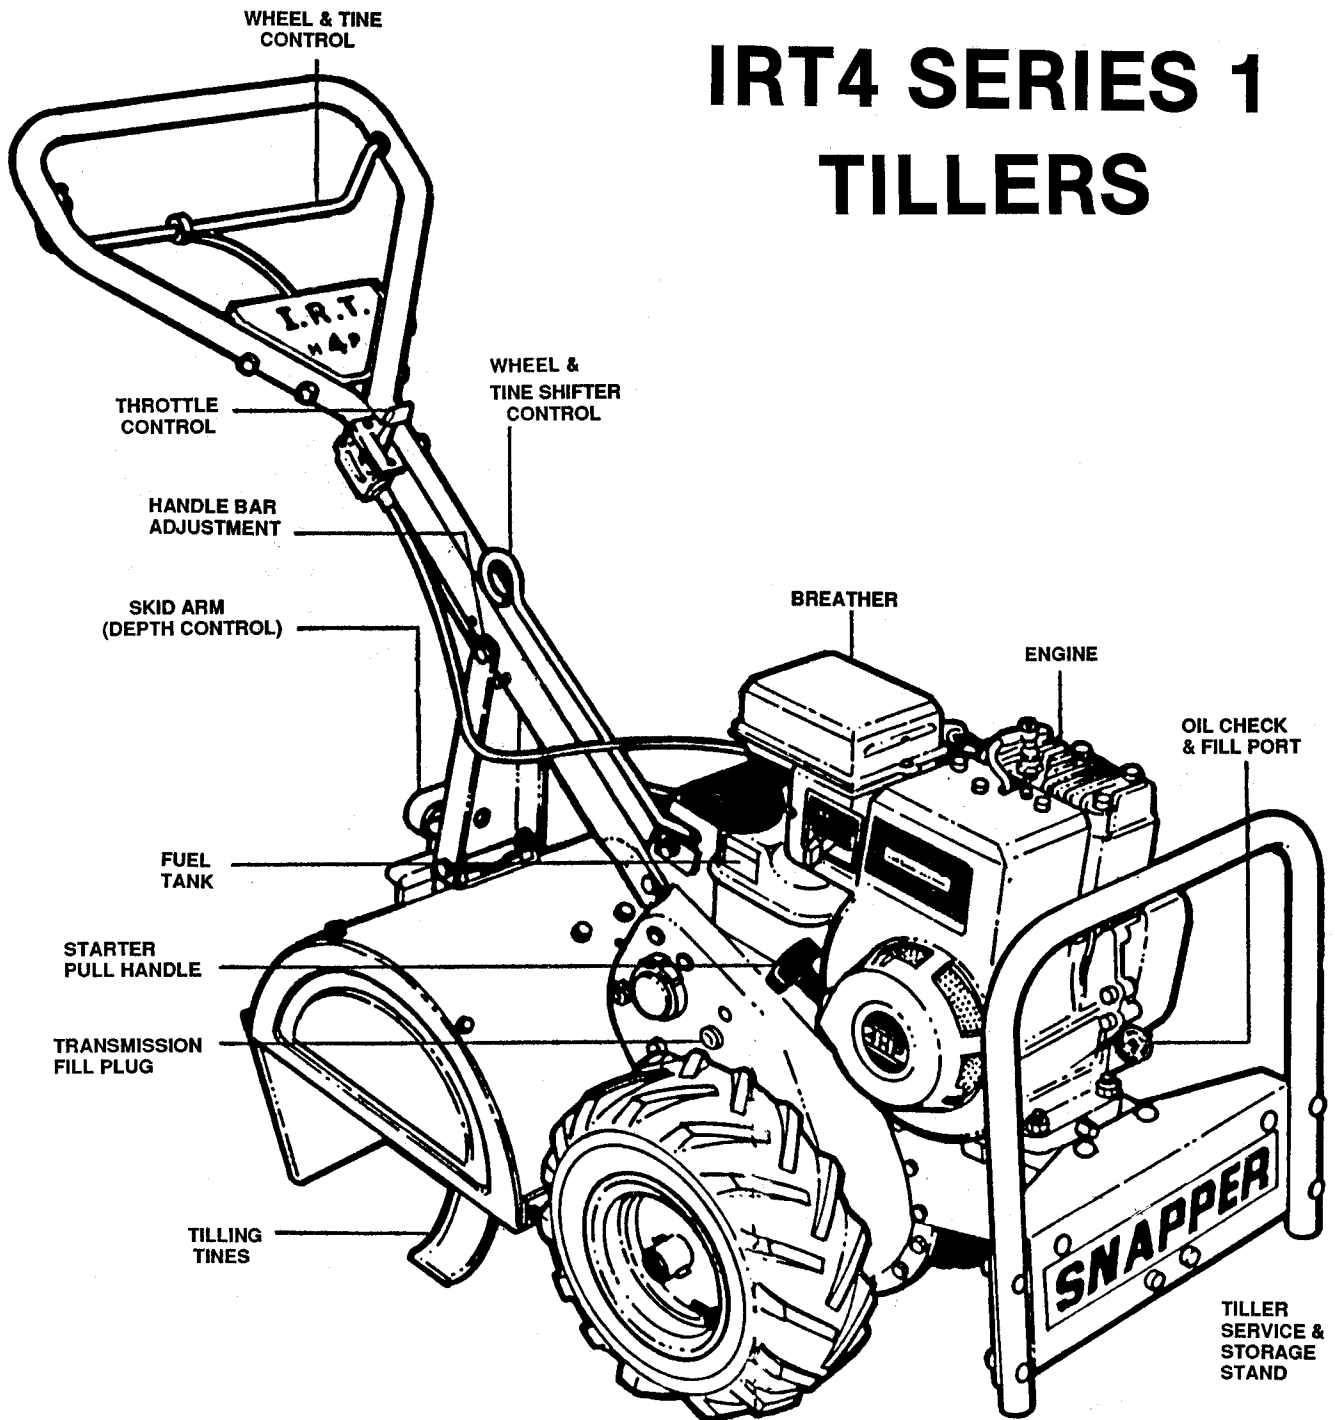

FIGURE 1
**INTRODUCTION:** This manual covers the recommended operating procedure and routine service requirements on Snapper IRT4 Series 1 Rear Tine Tillers. It is recommended that all operators of this tiller become thoroughly familiar with the controls and proper operation of the unit before operating. Specific details involving the engine are found in the separate engine owner's manual. Study these manuals before operating and keep both handy for future reference. Refer to figure 1 above for location of controls and other essential components on the IRT4.